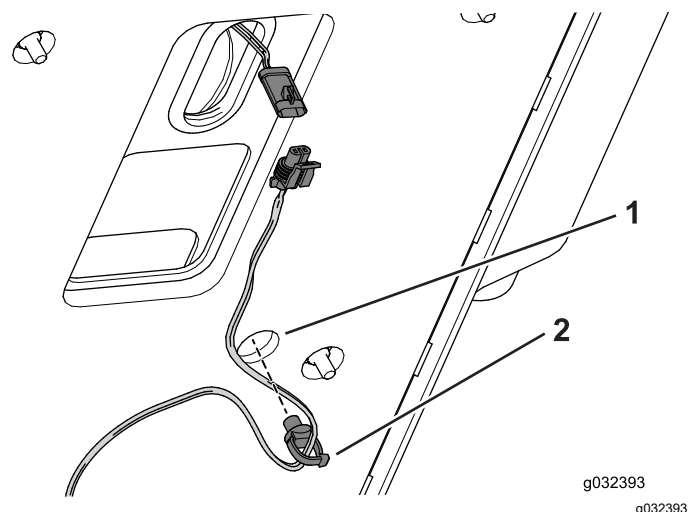

Figure 7
6. Install the wire clip to the bottom of the seat plate (Figure 7).
7. Connect the seat-switch to the wire harness (Figure 7).